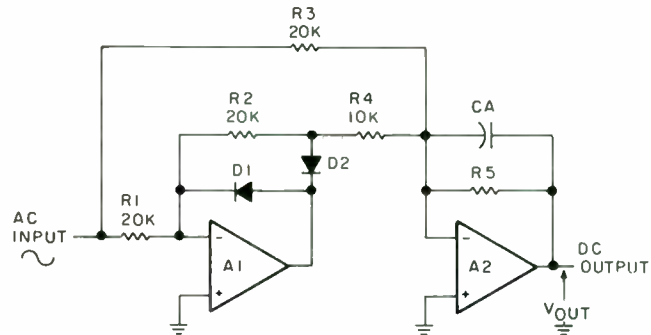

FIGURE I-3a: Basic full-wave rectifier-averager circuit.
VOLTMETER BOARD. The voltmeter (VM) full wave rectifies sinusoidal signals and averages them to provide a DC output voltage equal to the RMS AC input voltage. Since this is basically an average-reading function, any non-sinusoidal inputs must be corrected. A discussion of the full-wave rectifier-averager circuit shown in *Fig. I-3a* appears in National Semiconductor's literature.^{1,2}